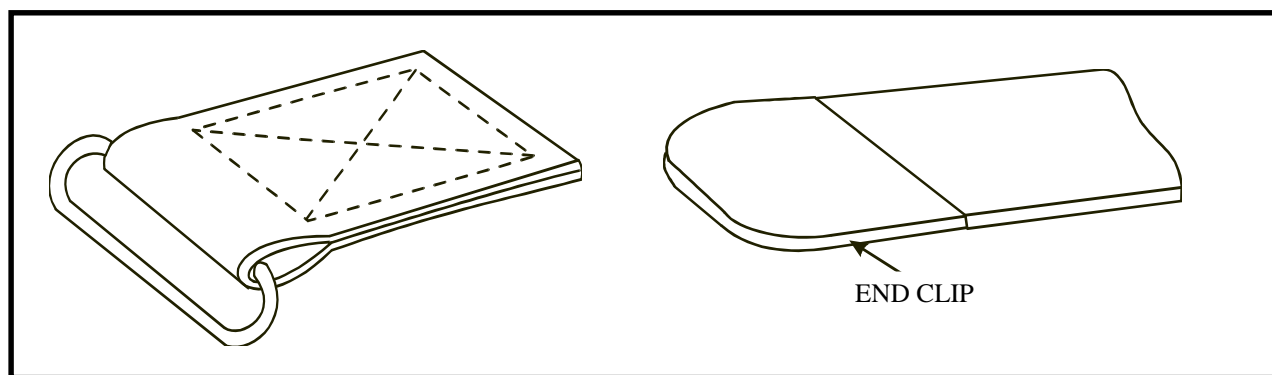
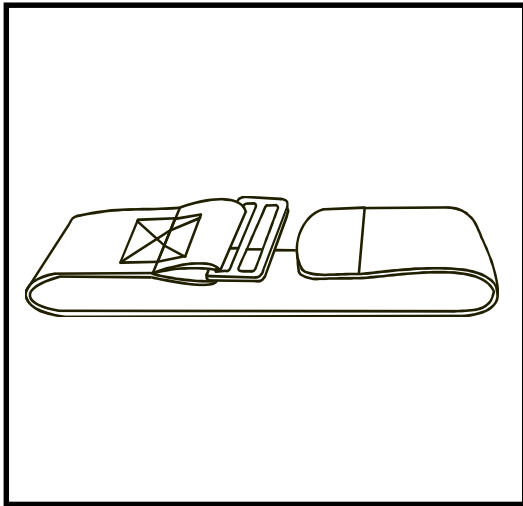

Figure 13-13. Plain-end strap
Figure 13-14. Billet
a. Plain End Strap. A strap with a plain end (Figure 13-13) is a piece of webbing cut to size. The end is finished by attaching an end clip or by looping it through a piece of hardware, turning under the raw edge, and sewing it in place to the strap. A plain strap that has a buckle on one end and an end clip on the other is a billet (Figure 13-14).